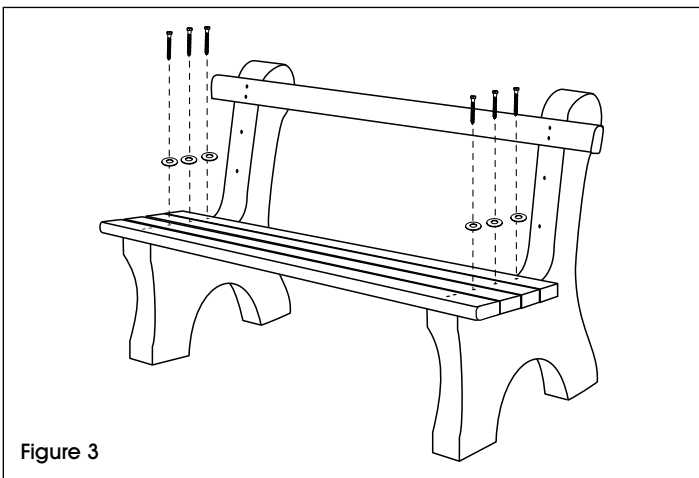

Figure 3
5. Align three single hole bench slats on the pre-drilled holes of the bench base seat. Loosely attach the single hole bench slats with the 3/2" lag screws and washers using the power drill and 7/16" socket bit (will tighten later in step 7). (See Figure 3)